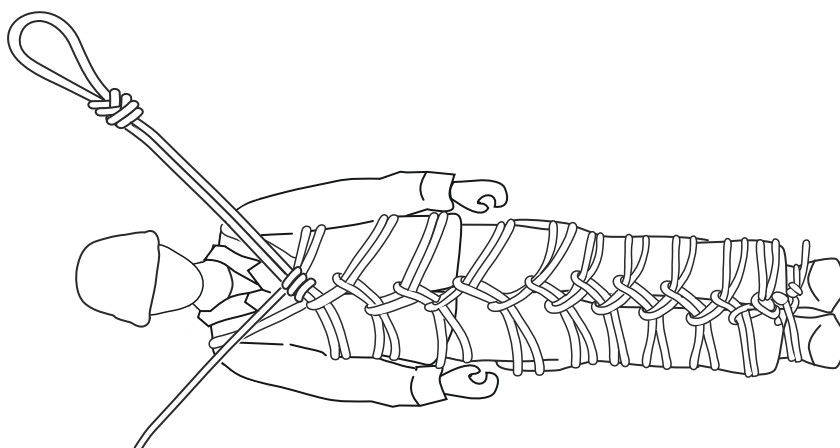

Figure 9-11. Securing the Last Bight.
- Secure the last bight with a round turn and two half hitches, leaving a big enough bight to tie a figure-eight loop at the end, as in figure 9-11. This loop will be the hook in point for vertical lowering.